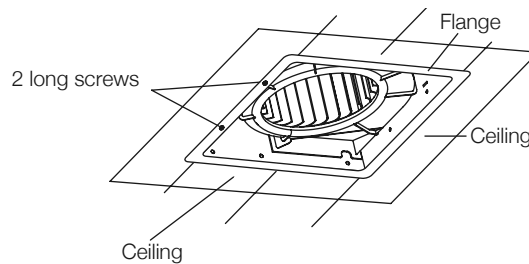

Figure 4
5. Ceiling hole should be flush with the edge of the flange (Fig. 4). See dimensions for ceiling hole on page 3.